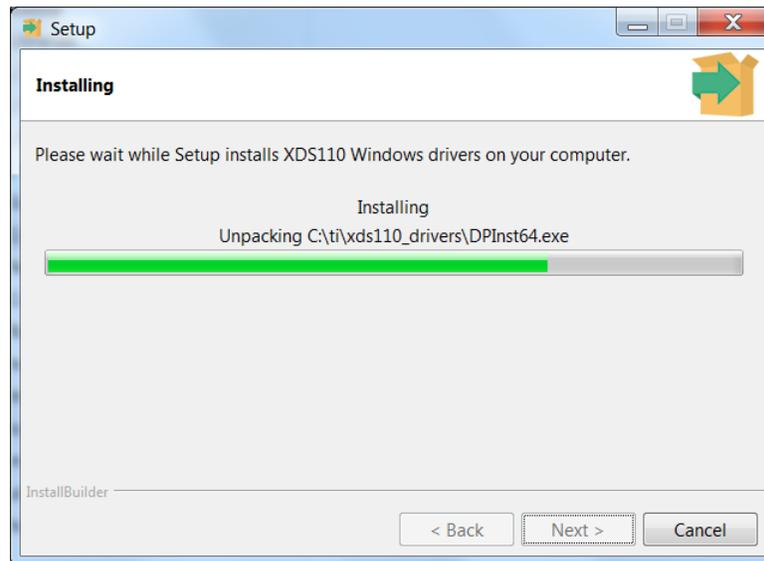

Figure 8. XDS110 Driver Installation Complete
4. Click the Finish button after the installation is done (Figure 8).